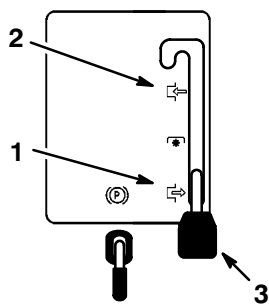

Figure 7
4. Move the PTO to Disengaged (Fig. 7).